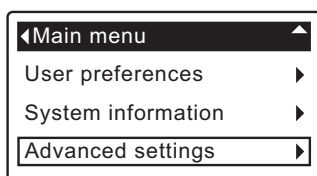

FIG. 69
1. From any of the rolling status screens, press the SELECT (O) button to display the **Main menu**.
2. Press the DOWN (▼) button to scroll through the menu options until **Advanced settings** is highlighted (See Figure 69).